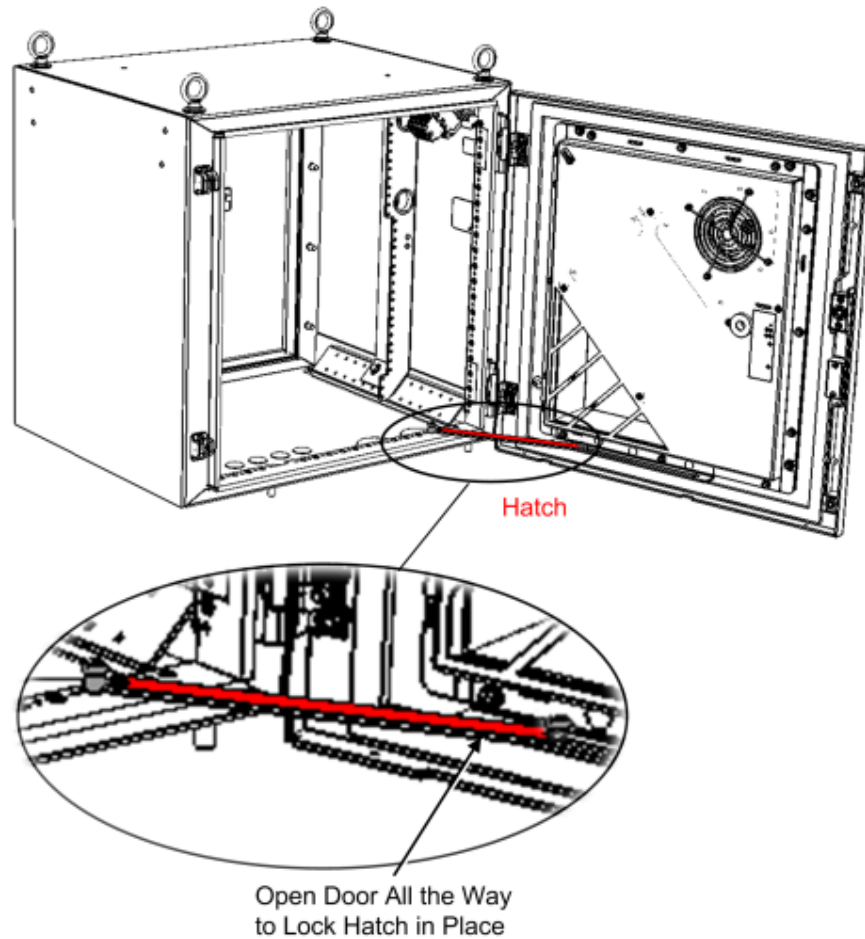

Figure 4-7. Opening Cabinet Door and Locking in Place
**ATTENTION!** Make sure that the door hatch lock into the door rail. See Figure 4-7.